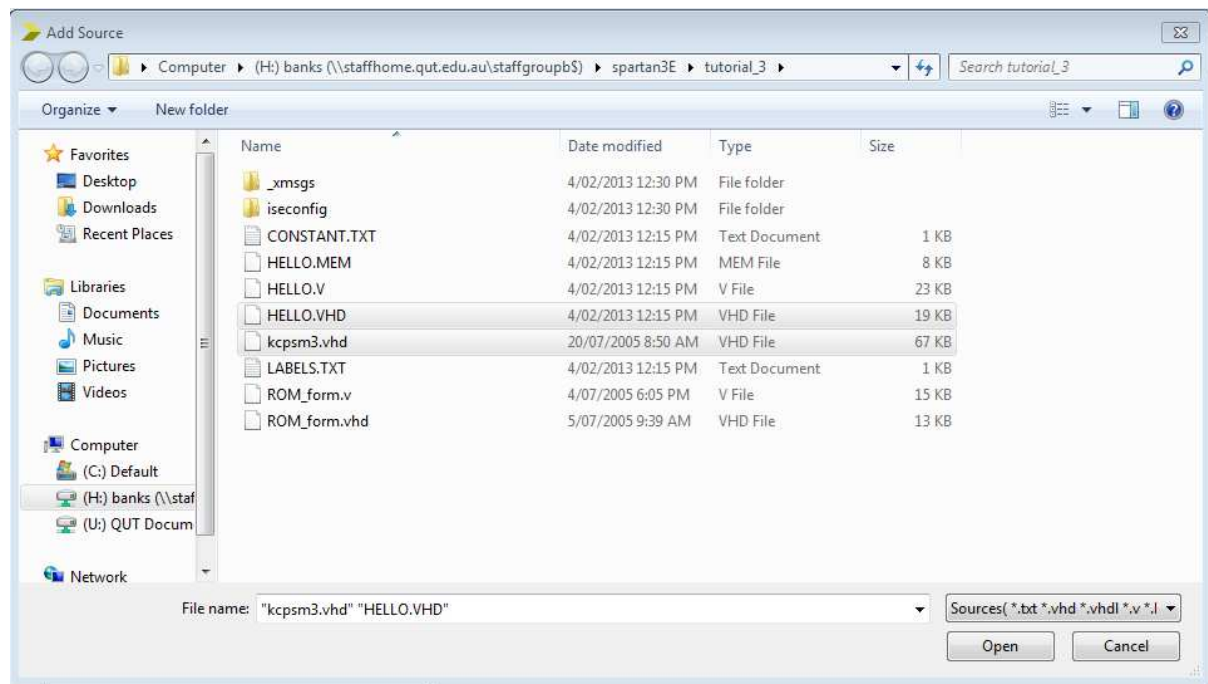

Figure 6.16: Add Source file selection window.
2. Select **HELLO.VHD** and **kcpsm3.vhd** as shown in Figure 6.16. Both files can be selected at once by clicking on the first filename, holding down the CTRL key and clicking the second filename. Alternatively, one file can be selected and steps 1-3 repeated for the second file.